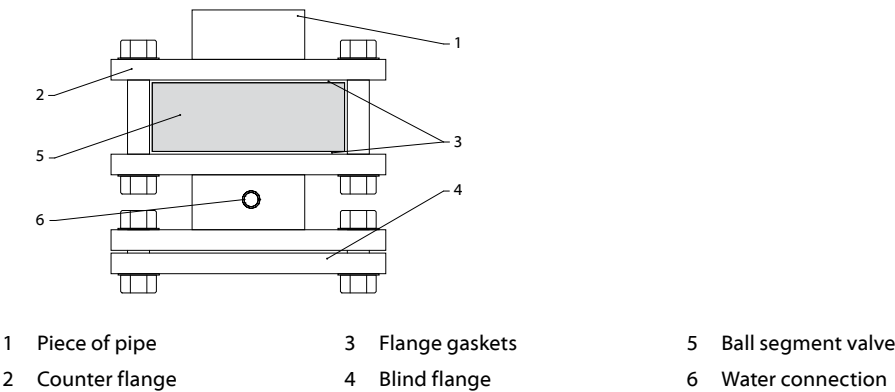

Fig.6-26 Leak test device (schematic diagram for wafer valve types)
- 1. The ball segment valve can be tested with a testing device as in (→ Fig.6-26) shown.